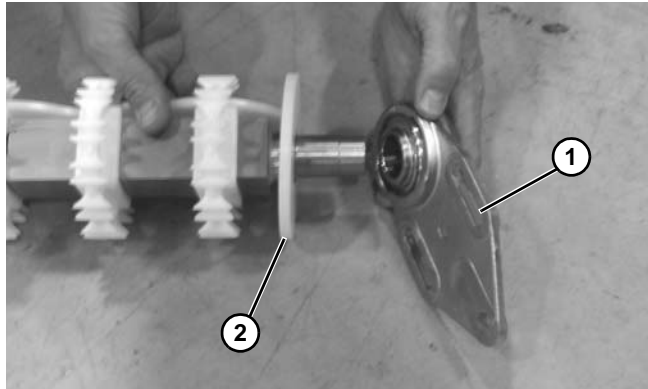

Figure 59
- Slide the headplate with bearing (**Figure 59, item 1**) off the shaft. Replace bearing if worn. Refer to “Bearing Replacement” on page 31.
- Remove guard puck (**Figure 59, item 2**) from end of drive spindle.